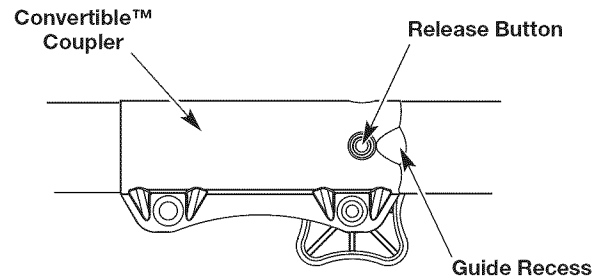

Fig. 3
NOTE: Aligning the release button with the guide recess will help installation (Fig. 3).
2. Press and hold the release button (Fig. 3).